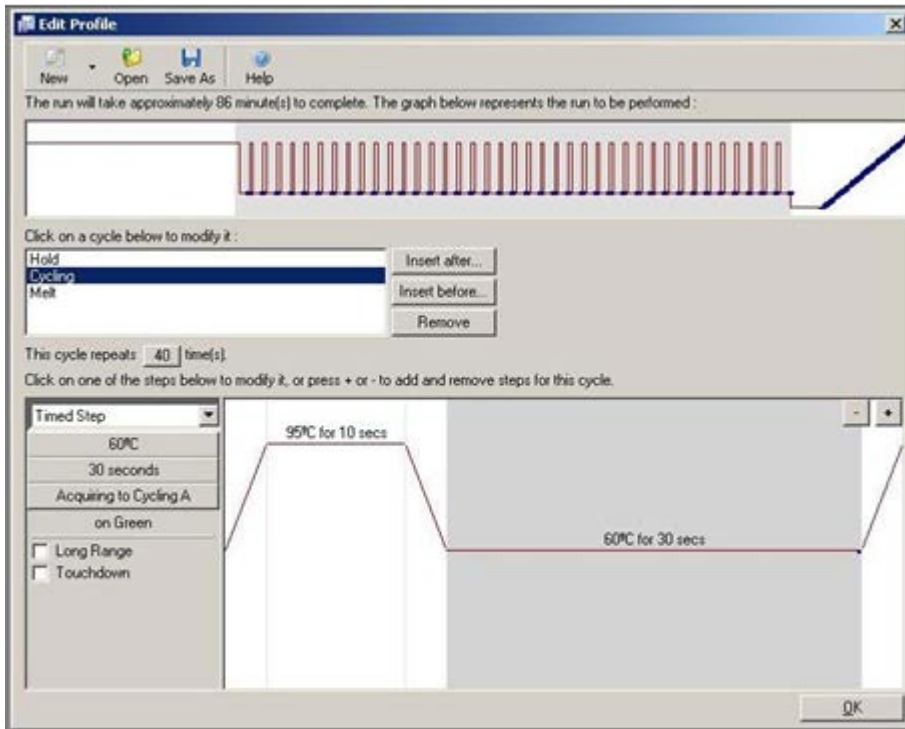

Figure 1. Screenshot of the Edit Profile tab.
7. Click Edit Profile. In the Edit Profile window (Figure 1), adjust parameters to reflect the following: